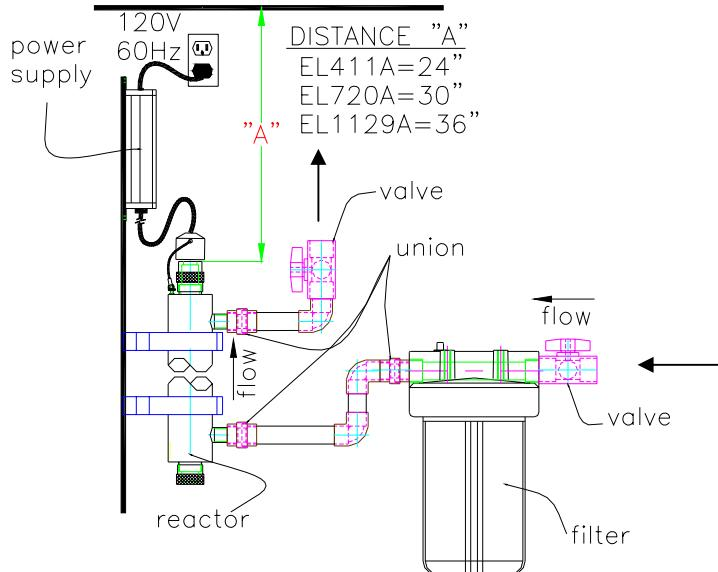

Figure 1.
Your UV disinfection system should be the last component in your water treatment system, downstream from all other equipment. Choose a location for installation with easy access to a 120VAC electrical outlet. Note the direction of water flow in the supply line. Refer to figure 1 for the typical installation diagram and ensure that you have all the fittings necessary for your installation.
The minimum distance ("A") for clearance is necessary to remove the UV lamp from the reactor. If this is not practical the reactor can be removed from the mounting clips for maintenance. Use of unions on the inlet and outlet will facilitate this removal. See figure 1.
6. Install new plumbing as shown in figure 1. Note: If installing a pre-filter, use a 5 micron filter and ensure the direction of water flow is correct.